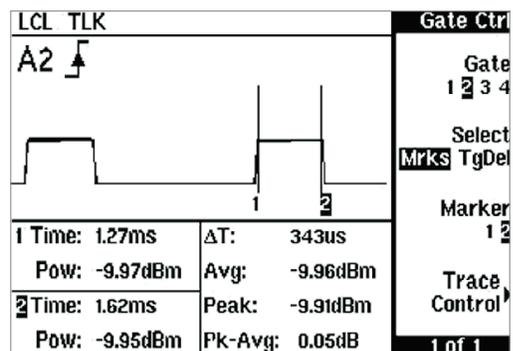

Figure 12. Average and peak power of second pulse
3. Set up Gate 2 to measure the power across the second pulse.	Press Gate Control . Toggle Gate to highlight 2. Use the arrow keys to move the marker to the rising edge of the second pulse (~1.3 ms) and toggle Marker to highlight 2. Use the arrow keys to move Marker 2 to the falling edge of the second pulse (~6 ms). See Figure 12.